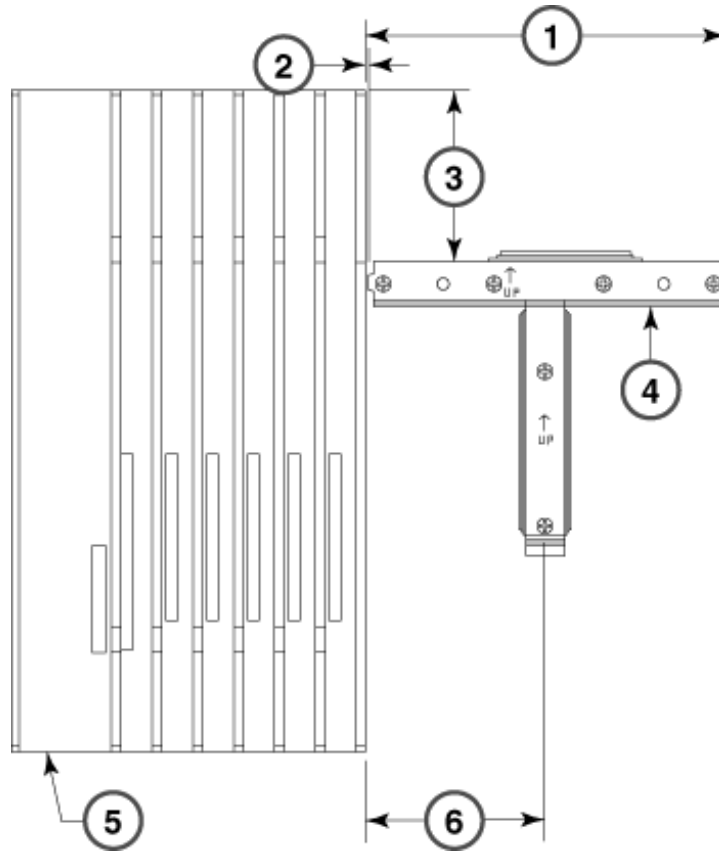

Figure 8-3. Using a Mounting Bracket
- If you are using mounting brackets to mount the expansion carrier, see Figure 8-3.